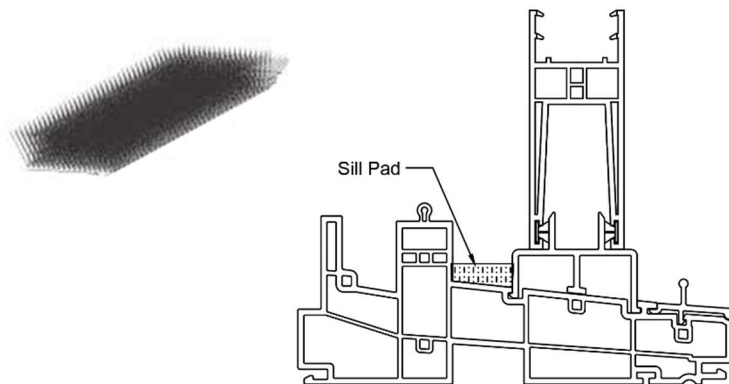

Figure 7
4.1 Remove the adhesive backer that is on the sill pad. Install the sill pad (Figure 7) tightly towards the sill track and directly against the panel support. Seal the perimeter of the sill pad with silicone sealant.